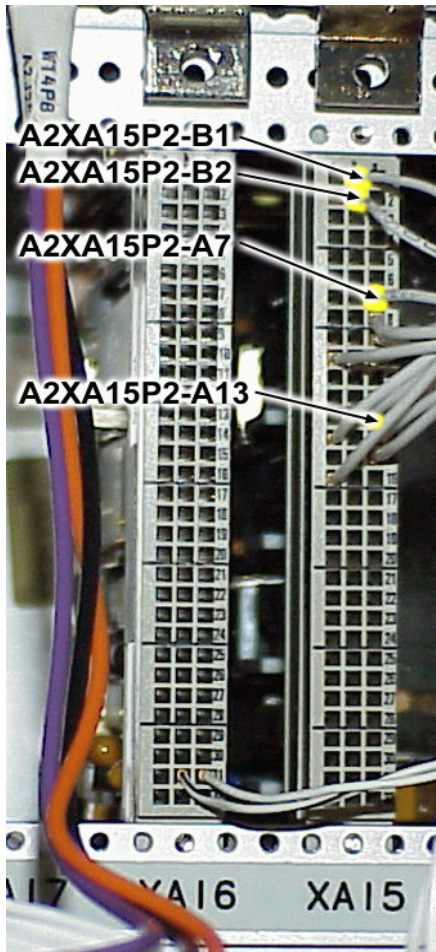

Figure 4 **7A1A1A2XA15P2**
15. Route the four 22-gauge white wires to the VME rack connector 7A1A1A2XA15P2 and insert them as illustrated in figure 4.